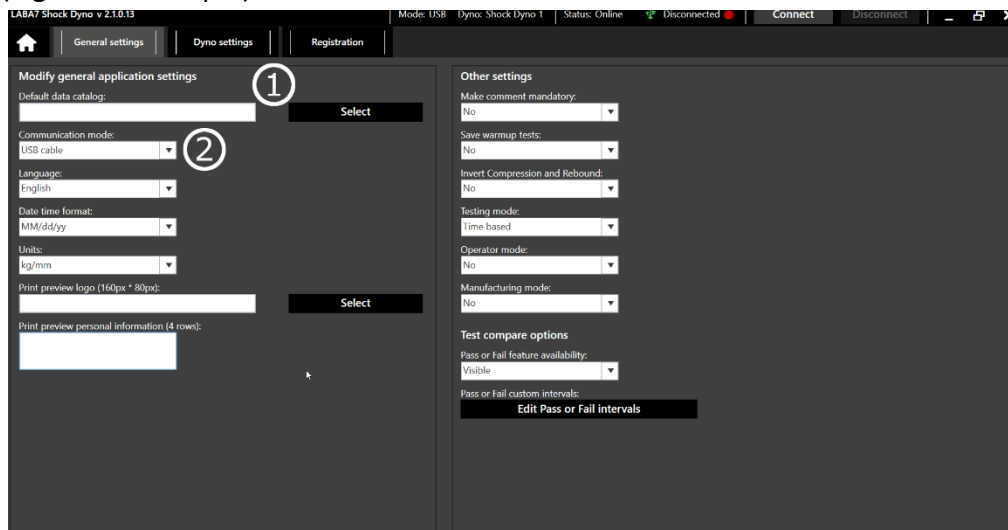

Figure 17
3. Select the default data catalog, this is the catalog, where all of your test project files will be saved. (Figure 17 – Step 1).
4. Select Communication Mode by clicking on the drop-down menu (Figure 17 – Step 2):